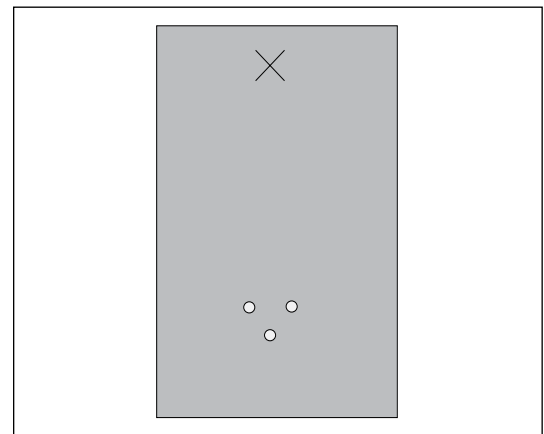

FIGURE 2. Mark faucet and water control locations on cardboard template.
- Place cardboard template over faucet and water controls and mark their location. Remember X side goes against wall. Template should be flush with front edge of shower base. Cut holes in template where indicated. Double check hole locations after cutting template. (Fig. 2)